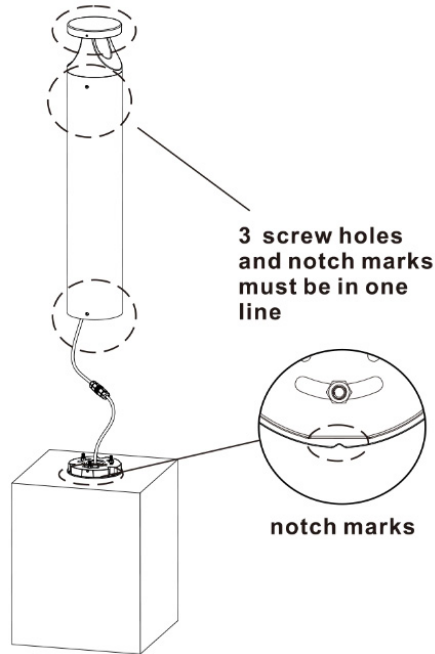

Fig. 6
6. Align the screw holes to the notch mark (Fig. 6).